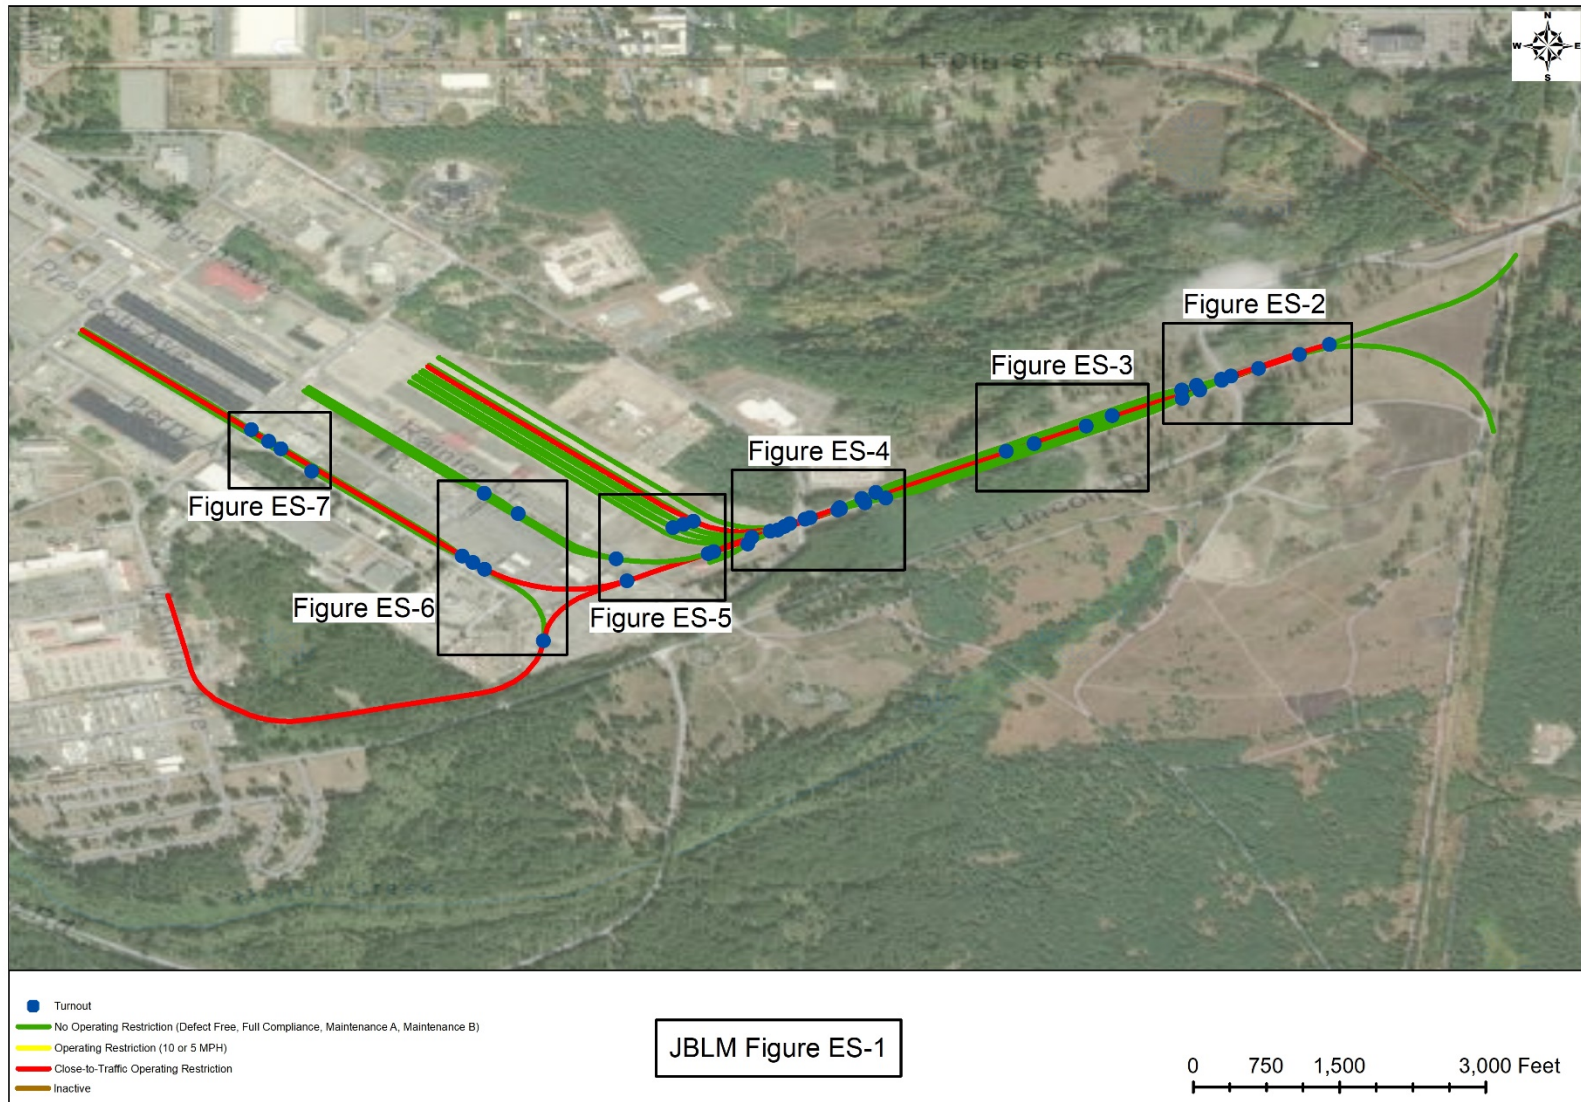

Figure ES-1. Overview of Joint Base Lewis-McChord track network.
Personnel of the U.S. Army Engineer Research and Development Center (ERDC), Vicksburg, MS, performed on-site assessments of railroad facilities at Joint Base Lewis-McChord, WA, during November 2020. A schematic of Joint Base Lewis-McChord tracks can be found in Figure ES-1. The condition of the railroad facilities was determined using visual and ultrasonic internal flaw inspections to identify and delineate apparent defects.
- b. Of the 35 track segments inspected, the operating restrictions of 30 segments are green (no traffic restrictions), 0 are amber (restricted operations), and 5 are red (close-to-traffic). These operating restrictions are shown in Figures ES-1 through ES-7 and listed in Table 3-2.